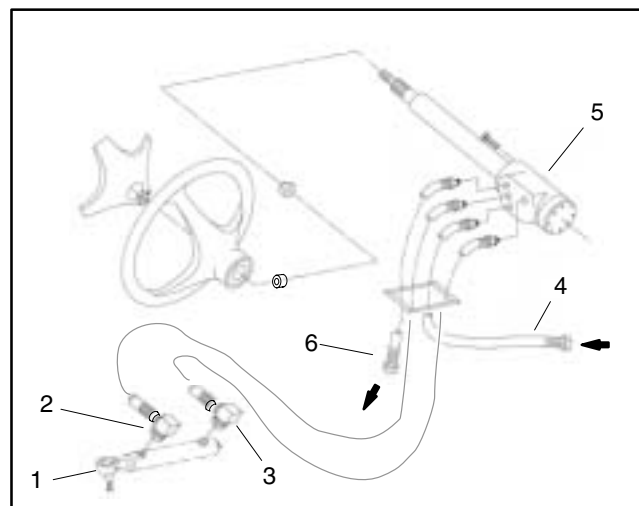

Figure 24
4. Disconnect hydraulic hoses from steering cylinder (Fig. 24). Allow hoses to drain into a suitable container.
6. Connect hydraulic hoses to steering cylinder (Fig. 24). Tighten hose connections.